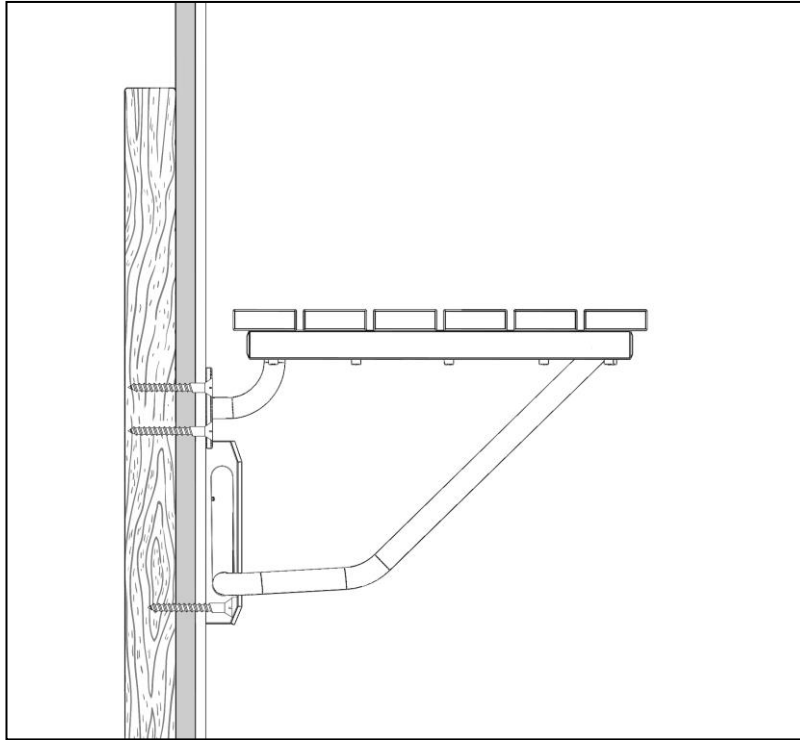

Figure 3
- Adjust the position of the **Guide bracket (part # 05)** on the wall to align with your holes. Attach the **Guide bracket (part #05)** to the wall using 4 of the **ST5 x 70mm Screws (06)**. Fully tighten all screws and test the operation of the seat. The seat is now ready for use. (See Fig. 3)